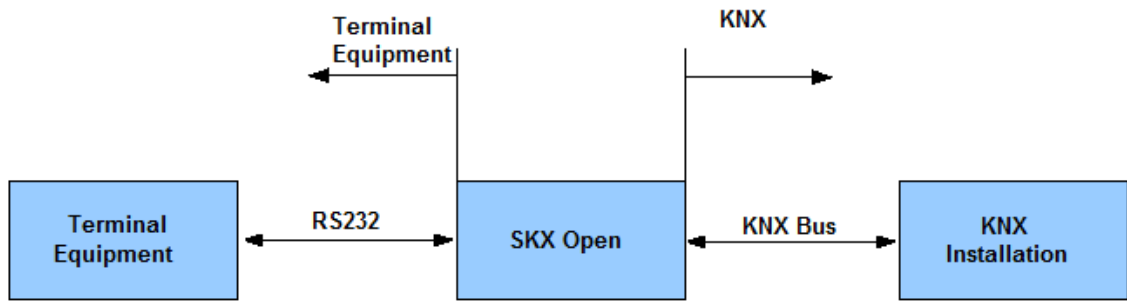

Figure 1.4. Bidirectional communication
**SKX Advance** is an application that can be downloaded on the **SKX** interface. Its main function is to manage the communication between KNX and the RS-232 protocol, allowing the configuration of all the interchanged information between the bus and the terminal equipment. This information interchange is **bidirectional**, i.e., it is possible to send data from the KNX bus to the terminal equipment and vice versa. In the Figure 1.4 there is an example of this of communication.